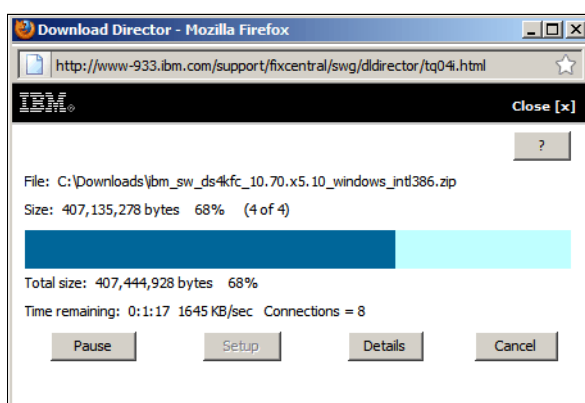

Figure A-14 Download Director - download progress
- c. The Download Director will then download the selected files as shown in Figure A-14.